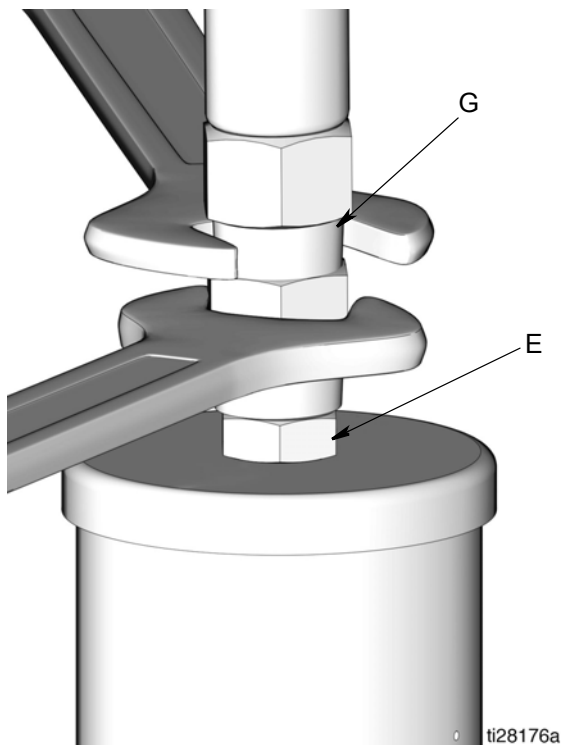

FIG. 6
2. **Relieve pressure** in system using two wrenches working in opposite directions on the pump outlet (E) and lubrication line fitting (G) to **slowly loosen** the fitting until it is loose and no more lubricant or air is leaking out of the fitting (FIG. 6).